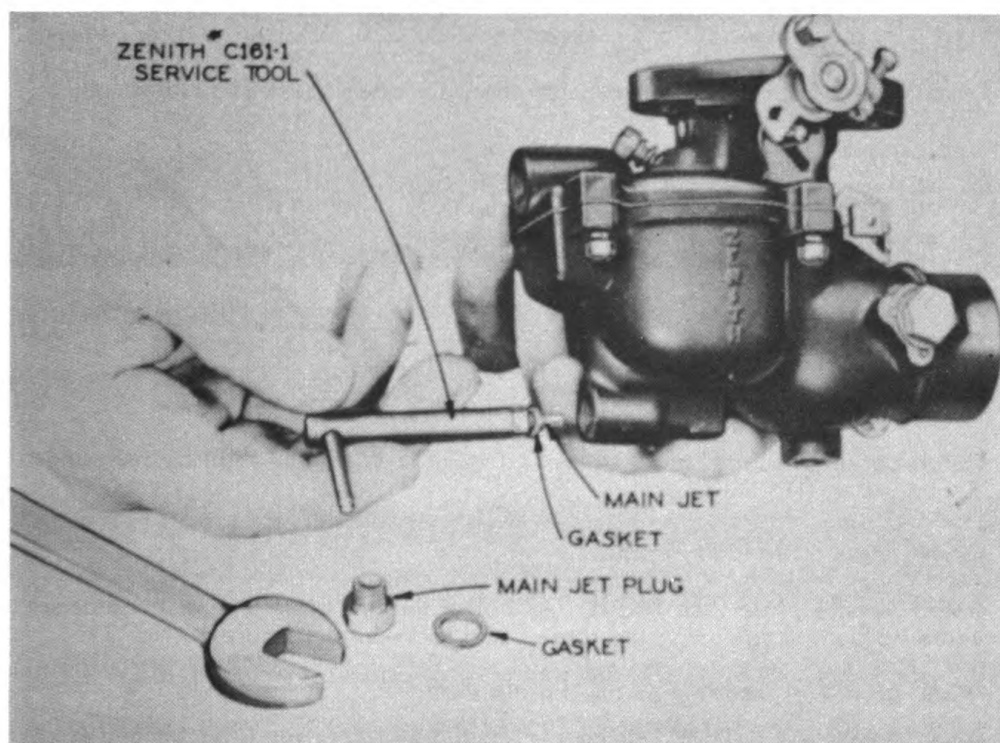

Fig. 111
18. Remove main jet (2) and gasket using a C161-1 Tool or a screwdriver. (Fig. 111)
7. Replace main jet (2) and new gasket using C161-1 Service Tool. (Fig. 111)
8. Install main jet-plug and new gasket using a  $\frac{1}{2}$ " open-end wrench. (Fig. 111)